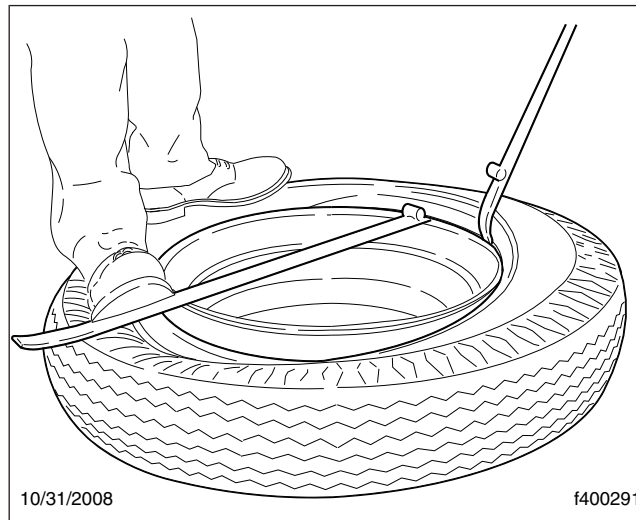

Fig. 4, Forcing First Bead From Wheel
- 3.3 Insert the curved end of two tire tools between the bead and the wheel, just to one side of the tire valve. See Fig. 4.